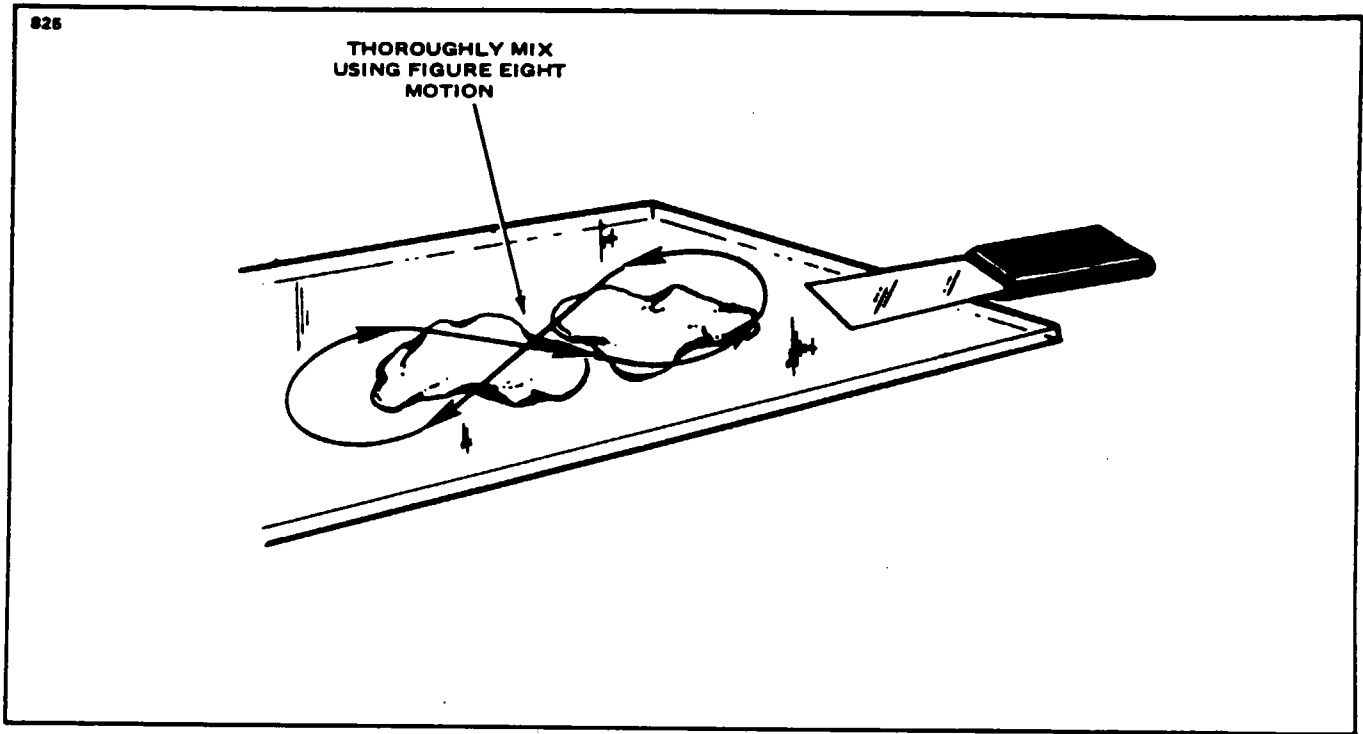

Figure 4-25. Mixing of Epoxy Patching Compound
6. The patching compound is mixed in equal portions on a hard flat surface using a figure eight motion. The damaged area is cleaned with perchlorethylene or VM&P Naptha prior to applying the compound. (Refer to Figure 4-25.)